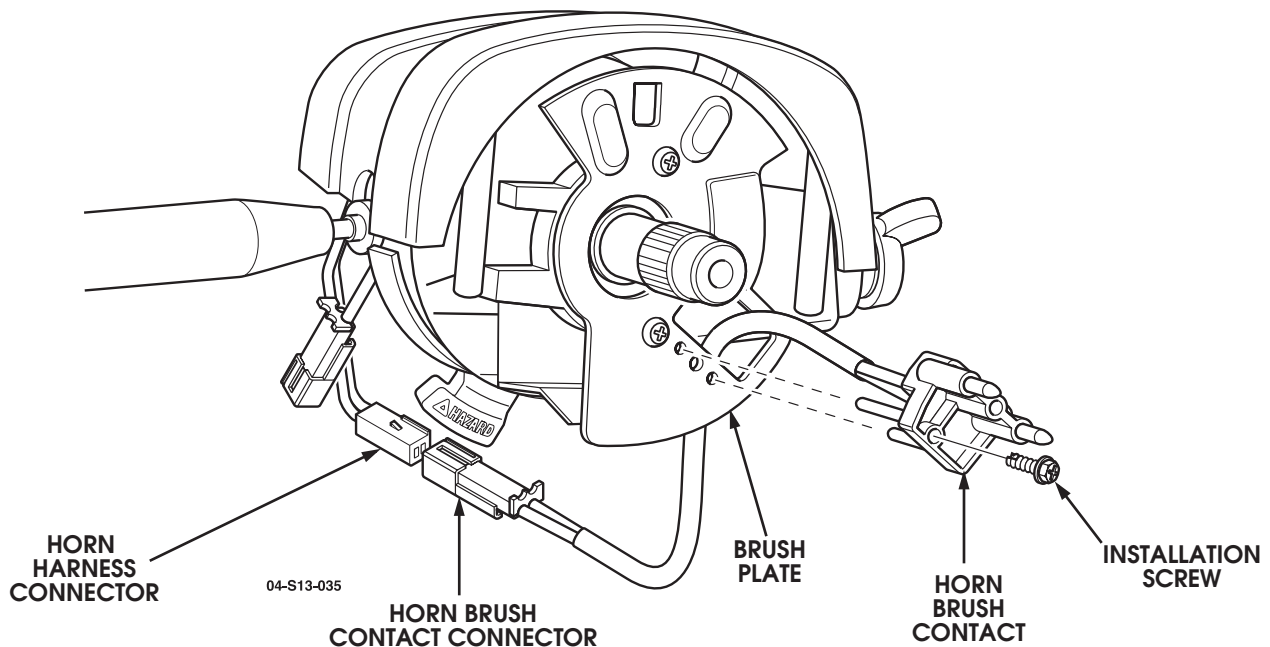

Figure 2: Steering column.
4. Disconnect the horn brush connector from the horn harness connector. Discard the old horn brush contact and harness (See Figure 2).